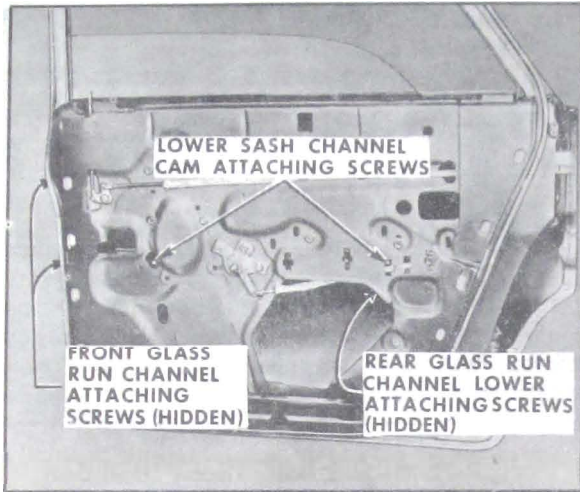

Figure 2-39—Rear Door Assembly
2. Remove front glass run channel lower attaching screws from hinge pillar facing of door inner panel. (See Figure 2-39)
run channel lower attaching screw and remove screw. (See Figure 2-39)
3. Remove lower sash channel cam attaching screws and disengage cam from sash channel. (See Figure 2-39)